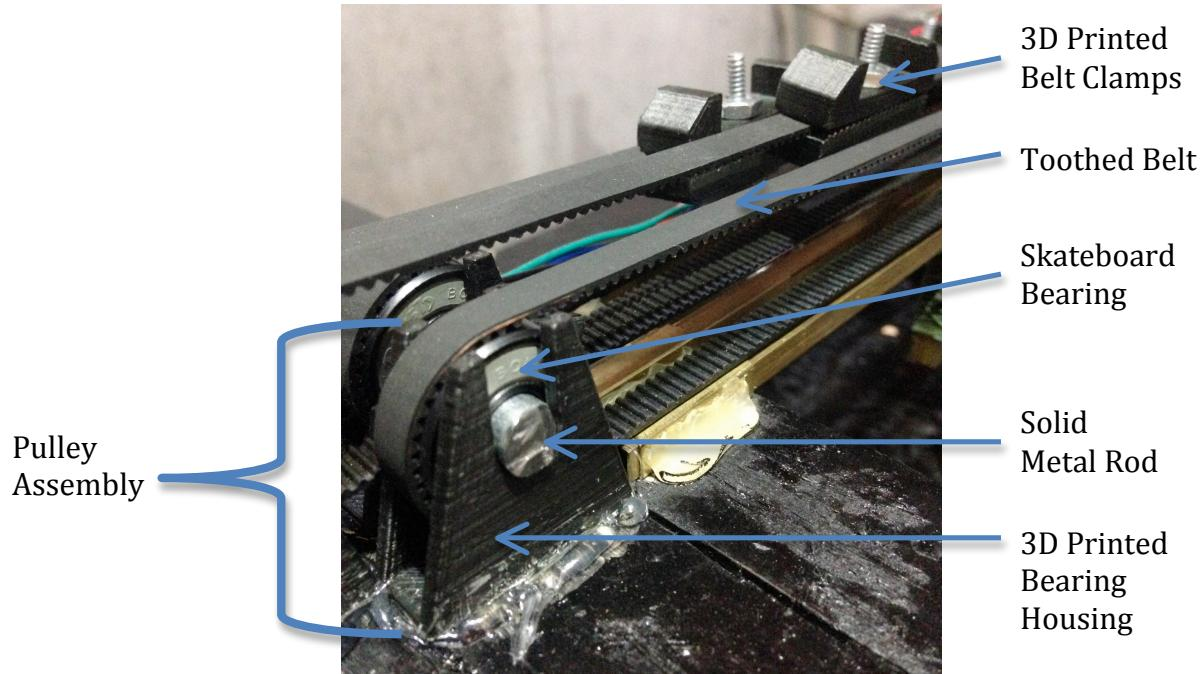

Figure 3
13. 3D print bearing housings with rod-sized diameter hole leaving a slot above as shown in Figure 3.
14. Assemble and secure for each rod as shown in Figure 3.